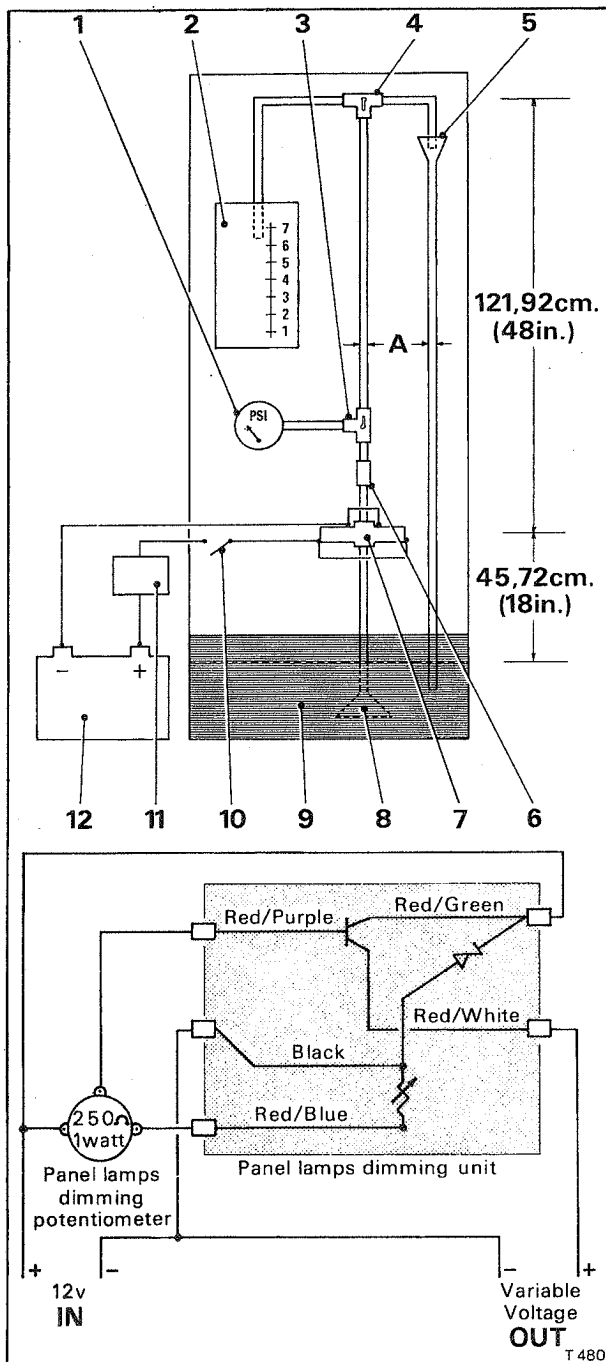

Fig. K29 Fuel pumps assembly test rig
1. Mount the fuel pumps assembly on a test rig similar to that shown in Figure K29.
11. Switch the voltage reducing unit (see Fig. K29) to 9.5 volts. Switch on the apparatus for the minimum length of time necessary to ensure that the fuel pumps assembly still operates (although the output may be low).